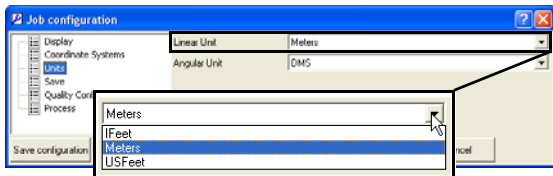

Figure 2-3. Select Linear Unit
3. Click **Units** in the left panel and select the applicable *Linear Unit* (Figure 2-3).